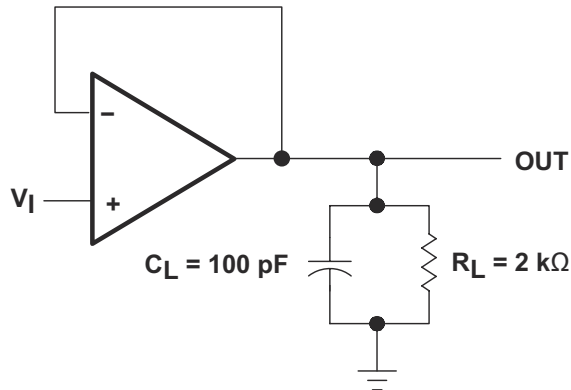

Figure 7-1. Unity-Gain Amplifier
| SR        | Slew rate at unity gain (1) | $V_I = 10\text{ V}$ , $R_L = 10\text{ k}\Omega$ , | $C_L = 100\text{ pF}$ , see Figure 7-1 | 1.5 | 3.5  | V/ $\mu\text{s}$             |
| $t_r$     | Rise-time                              | $V_I = 20\text{ V}$ , $R_L = 10\text{ k}\Omega$ , | $C_L = 100\text{ pF}$ , see Figure 7-1 |     | 0.2  | $\mu\text{s}$                |